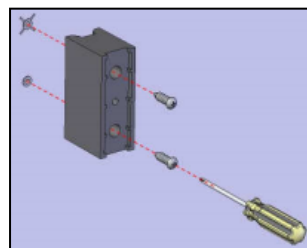

Figure 5
STEP 5: Screw the plastic brackets to wall using the four (4) thread cutting screws (Figure 5).